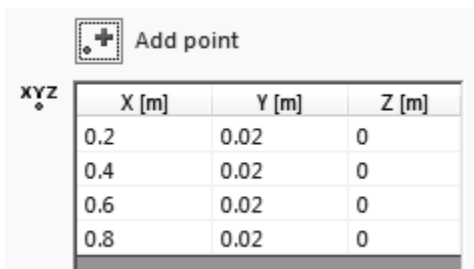
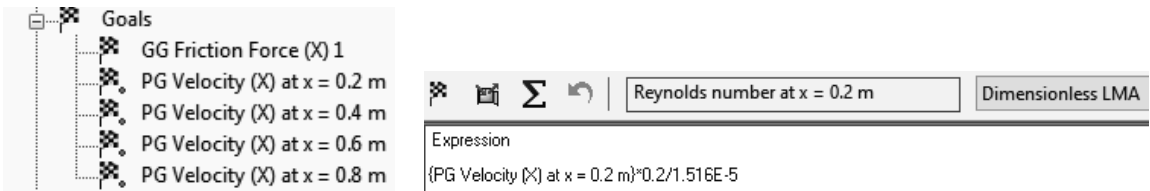

Figure 2.21e) Coordinates for point goals
Figure 2.21f) Renaming the point goals Figure 2.21g) Entering an equation goal
21. Right click on **Goals** in the **Flow Simulation analysis tree** and select **Insert Global Goals...** Select **Friction Force (X)** as a global goal. Exit the **Global Goals** window. Right click on **Goals** in the **Flow Simulation analysis tree** and select **Insert Point Goals...** Click on the $\begin{matrix} x & y & z \\ \hline \end{matrix}$ **Point Coordinates** button. Enter **0.2 m** for X coordinate and **0.02 m** for Y coordinate and click on the **Add Point** button $\begin{matrix} + \\ \cdot \end{matrix}$. Add three more points with the coordinates shown in figure 2.21e). Check the **Value** box for **Velocity (X)**. Exit the **Point Goals** window. Rename the goals as shown in figure 2.21f). Right click on **Goals** in the **Flow Simulation analysis tree** and select **Insert Equation Goal....** Click on **PG Velocity (X) at x = 0.2 m** goal in the **Flow Simulation analysis tree**, multiply by 0.2 (for $x = 0.2$ m) and divide by $1.516E-5$ (kinematic viscosity of air at room temperature ($\nu = 1.516E-5$ m²/s) to get an expression for the Reynolds number in the **Equation Goal** window, see figure 2.21g). Select **Dimensionless LMA** from the dimensionality drop down menu. Exit the **Equation Goal** window. Rename the equation goal to **Reynolds number at x = 0.2 m**. Insert three more equation goals corresponding to the Reynolds numbers at the three other x locations. For a definition of the Reynolds number, see equation (2.15).